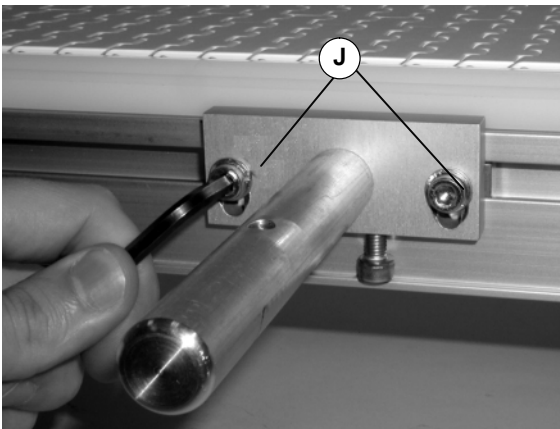

Figure 7
- Once support bars are spaced evenly, tighten screws (J of Figure 7) snugly with 5 mm hex wrench.